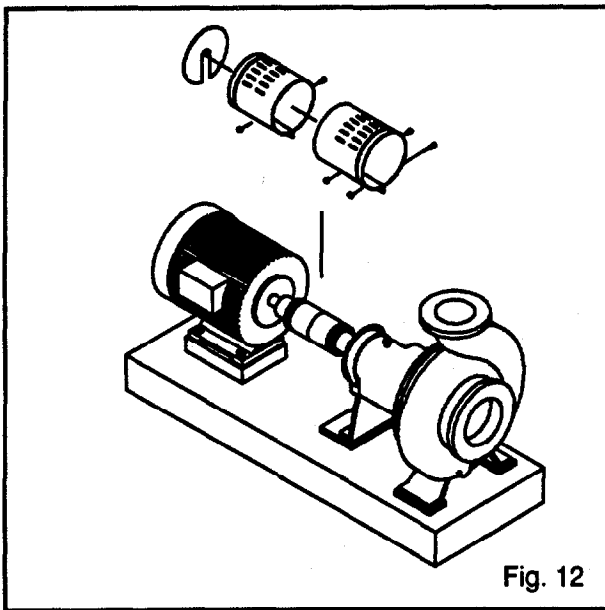

Fig. 12
2. Install coupling guard. (Fig. 12). Refer to Coupling Guard Installation and Disassembly Section (Appendix II).